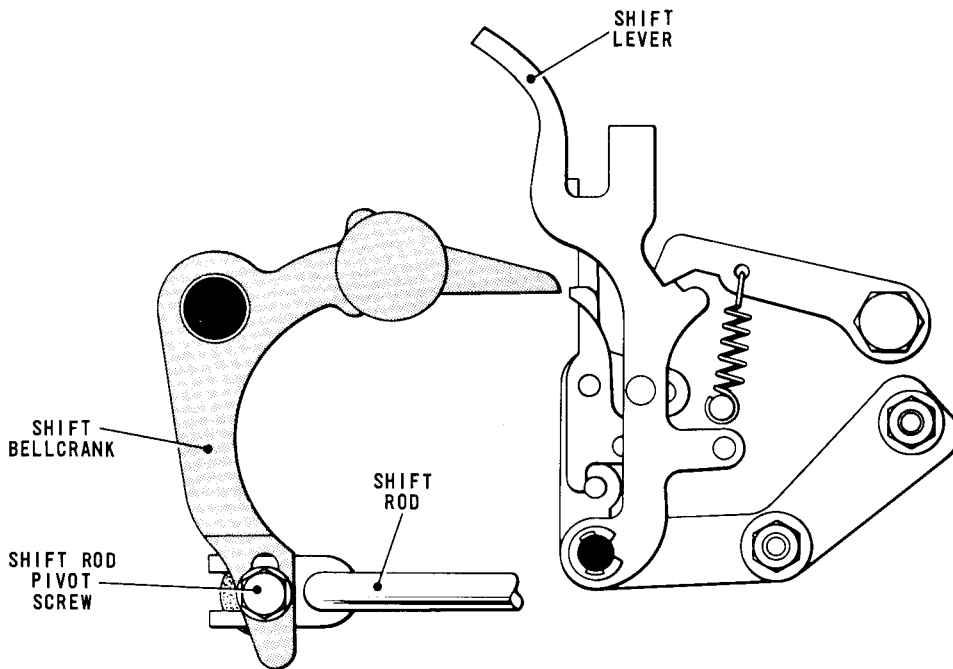

Fig. 4.53 SHIFT ROD/SHIFT BELLCRANK LINKAGE—REAR VIEW
- 64.4 Move the shift lever, Fig.4.53, to the Figures position, i.e. to the right looking from the rear of the machine. Depress the figure '8' key or, if the machine has no keyboard, set up the letter combination (SMMSS) corresponding to the figure '8' on the pins. Lift the translator clutch abutment and turn the machine by hand until the printing action has taken place and the aggregate motion levers have ceased to move. Press the typehead casting towards the platen and check that the printed figure '8' is equal in density at the top and bottom and is in line with the letters 'K' and 'X' previously printed. If no adjustment is required, refit the reperforating attachment.